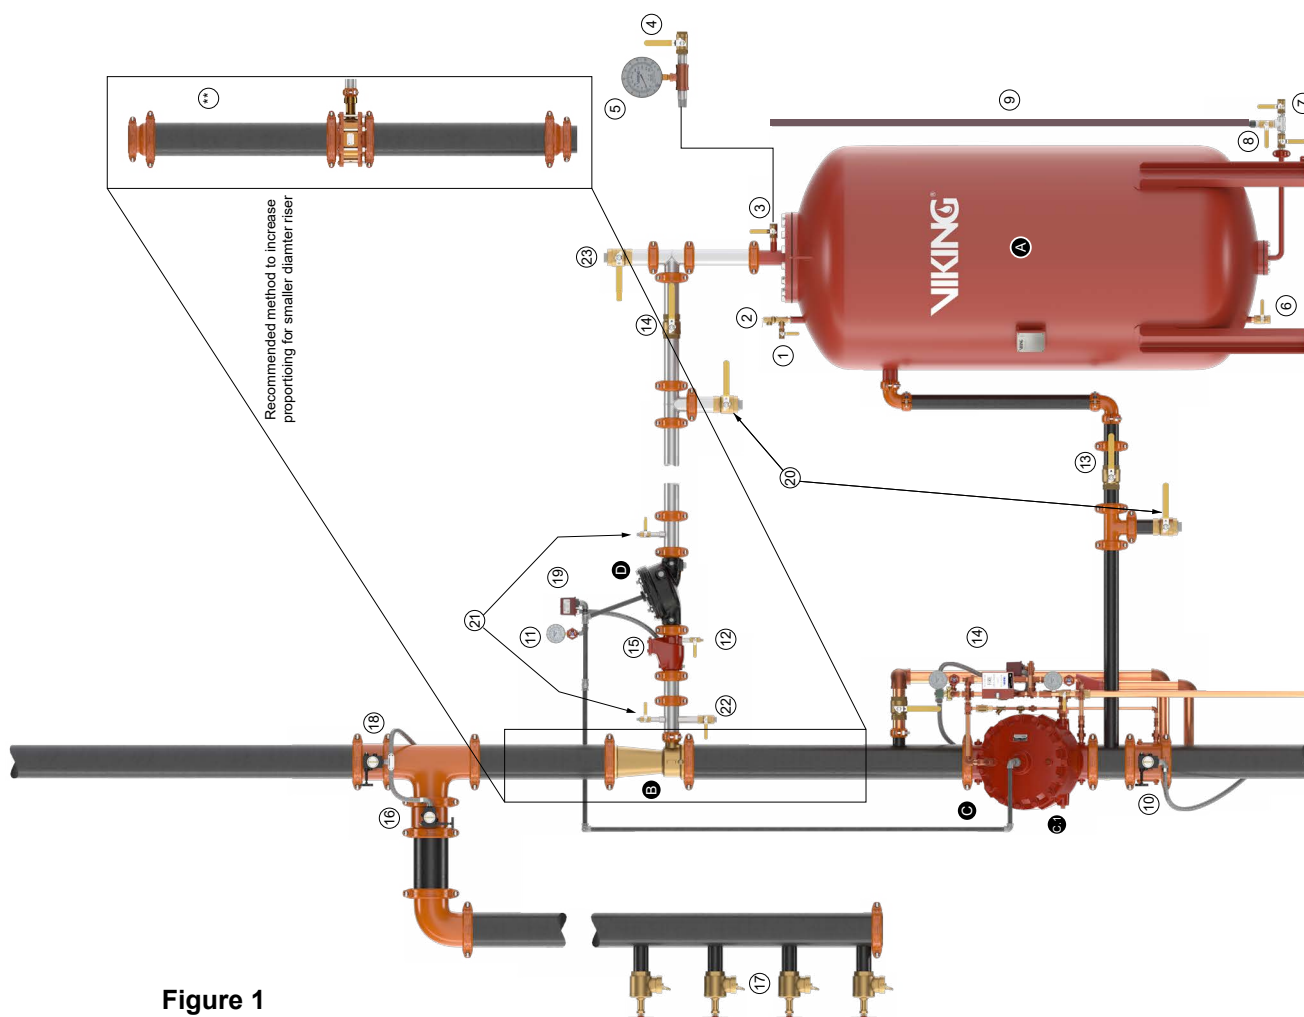

Figure 1
- n) Verify normal valve positions and secure in correct position (as detailed in Figure 1.)
- a) After a flow test or proportioning test has been conducted, the foam concentrate swing check valve (15) should be checked to ensure that it maintains a positive seal between the CCV (D) and the preaction system riser, by following the procedure outlined below.
- b) Bleed off any pressure which may have been trapped between the outlet of the chamber of the CCV (D) and the swing check valve (15) by placing a container under the foam concentrate auxiliary drain valve (12) and opening the valve slowly.
- c) Drain excess foam concentrate into container. Should the leakage continue, check the priming pressure gauge (11) on the CCV (D) to ensure that the valve is primed and closed.
- d) Flush the concentrate line downstream of the CCV (D)
- e) If the foam concentrate auxiliary drain valve (12) continues to leak foam concentrate, then the CCV (D) must be checked for proper operation and repaired if necessary. Follow the procedure in section D.1.d and refer to component data page for repair instructions.
- f) Should water continue to leak from the foam concentrate auxiliary drain valve (12), the foam concentrate swing check valve (15) clapper rubber and seat should be inspected or replaced. Refer to component data page for repair instructions.
- B. The combined total equivalent length of pipe (pipe length, plus equivalent lengths for fittings and valves) including both the water supply inlet piping (13) and the foam concentrate discharge piping (14), should not exceed 165 equivalent feet (50.3 meters); specifically, 100' (30.5 m) water supply and 65' (19.8 m) foam concentrate piping.
- C. The CCV (D) and swing check valve (15) must be connected adjacent to the ratio controller using pipe nipples as short as possible.
- D. Figure 1 is a general schematic of the required piping arrangement. Refer to the appropriate technical data page for specific information regarding the valve, tank, and related trim and devices.
- F. The CCV (D) does not require any trim, except for a ½" priming line and water pressure gauge and 3-way valve (11) from the main deluge valve (C) to the priming chamber of valve (D). Plug all the remaining valve trim outlets. Connect the CCV (D) priming line to deluge valve (C) as shown on Figure 1. Refer to the Valves section of the website to find the correct trim kit part number for the corresponding size of CCV (D) required.